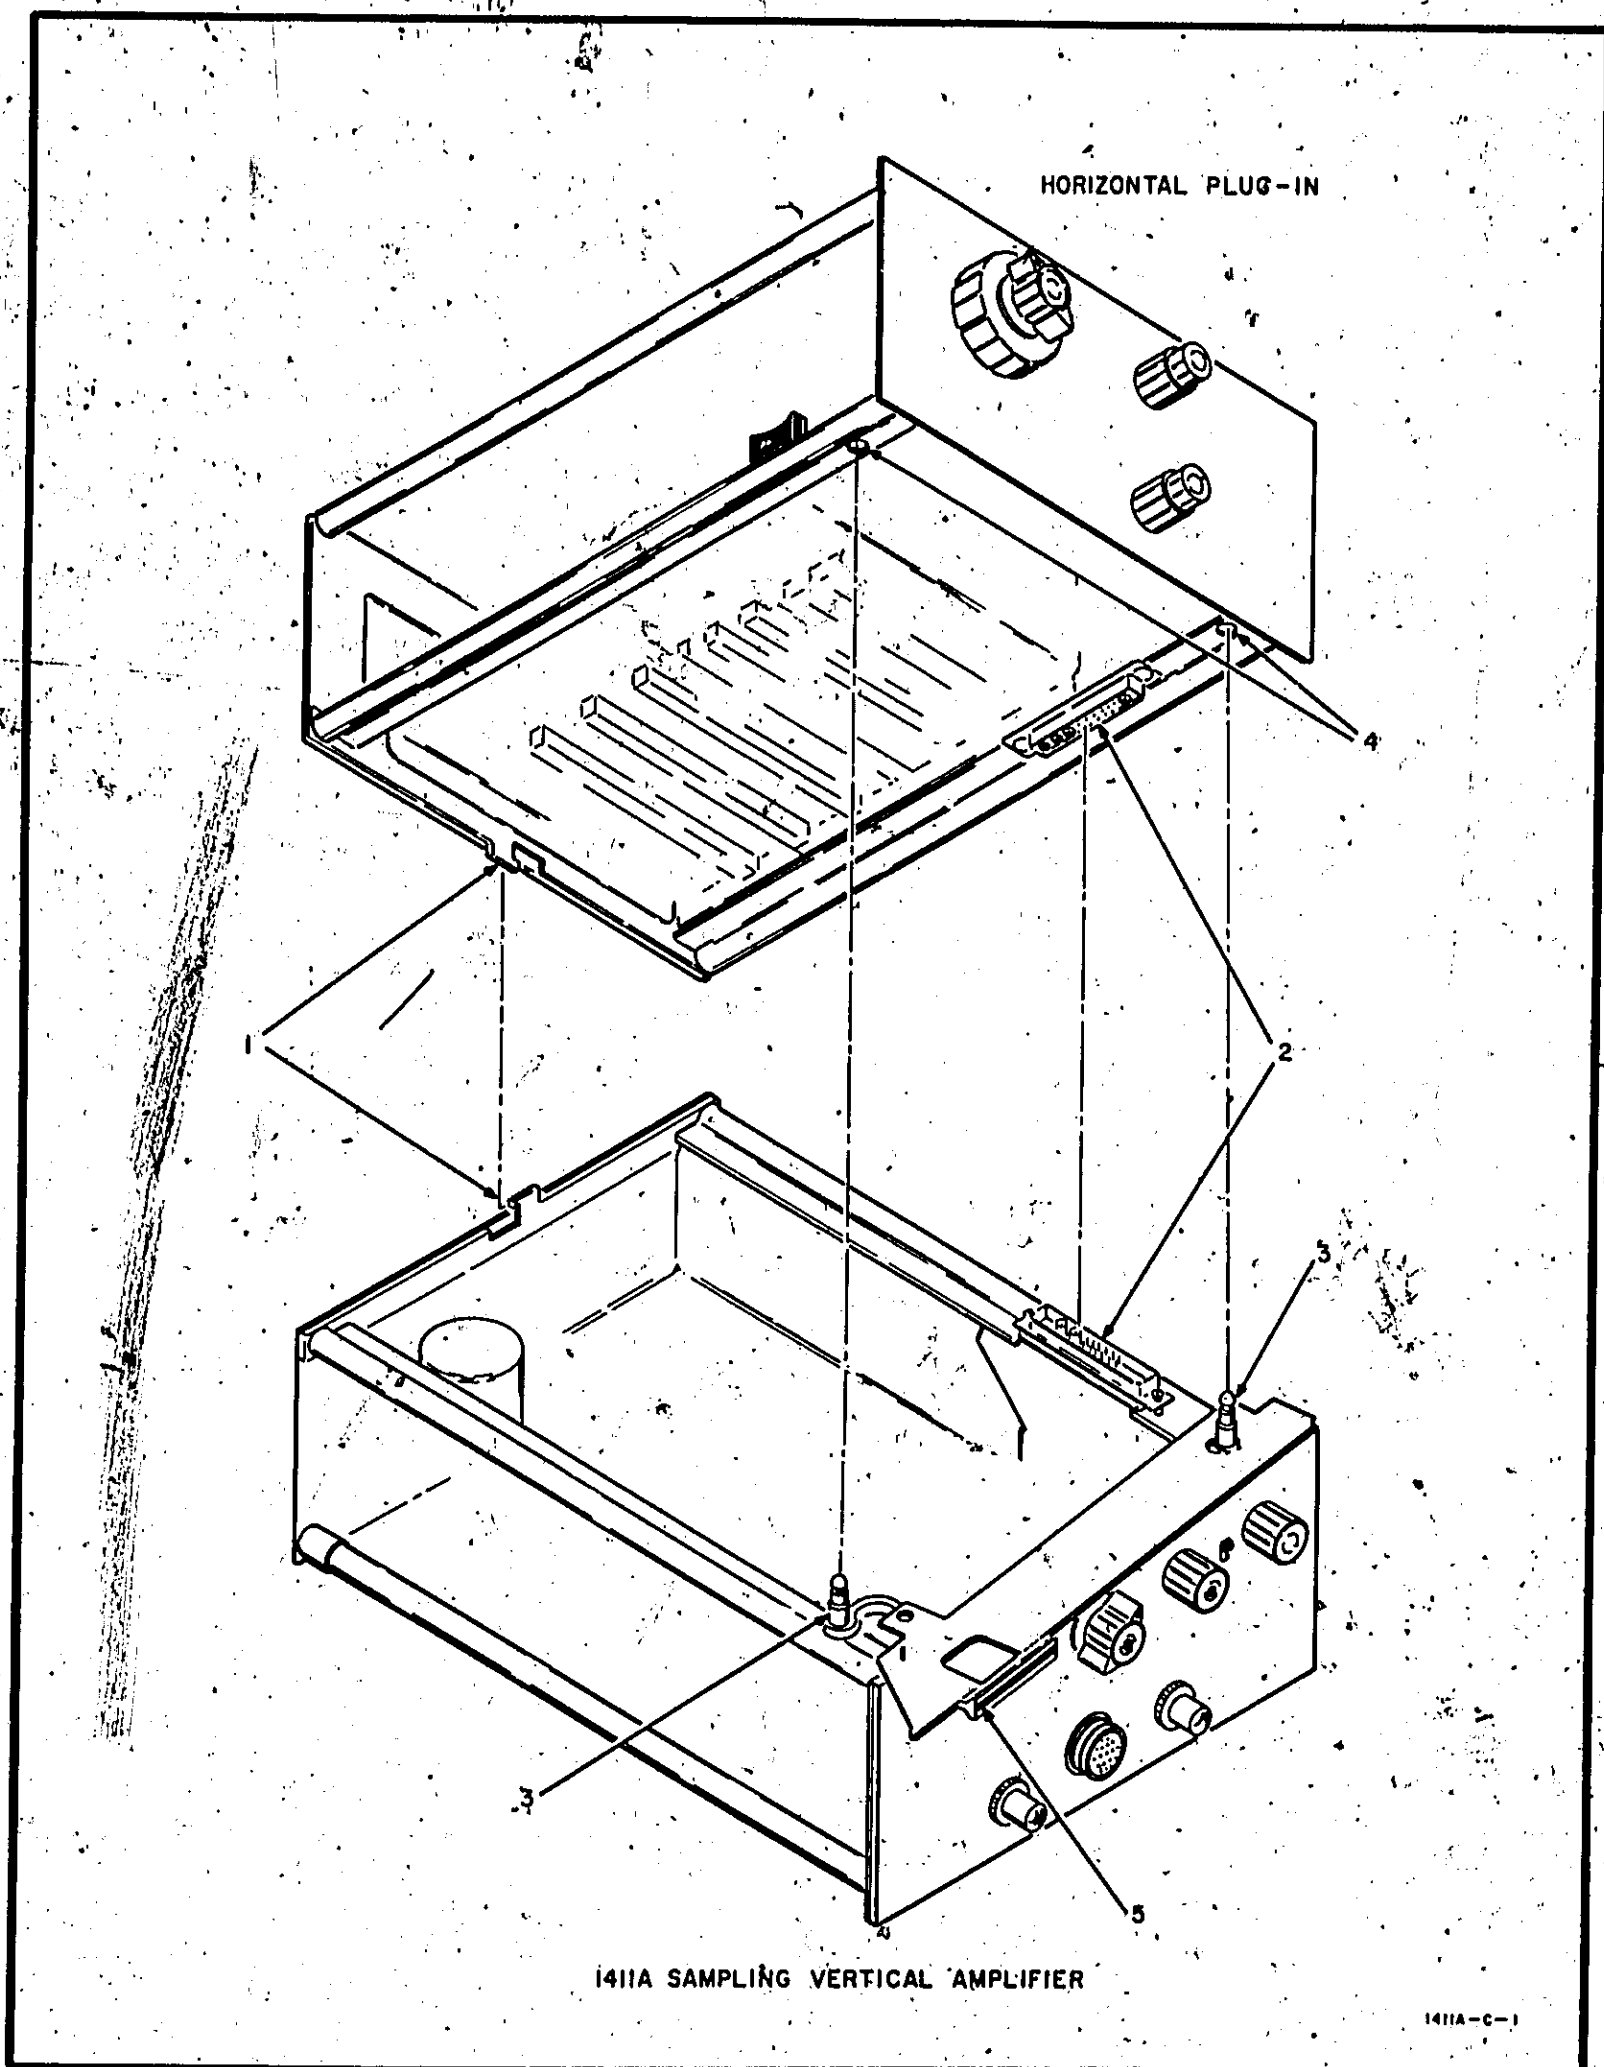

Figure 2-1. Procedure for Locking Plug-ins Together.
2-5. The Model 1411A Sampling Vertical Amplifier must first be locked to the sampling time base unit. To fasten the two units together, place the time base unit above the Model 1411A and with a slight twisting action fasten the two rear interlocks together (see Figure 2-1, item 1). Press the time base down, being careful to properly align the jack and plug (item 2). The two guide pins at the front of the Model 1411A (item 3) should mate with their respective guide holes in the time base (item 4) and snap together.